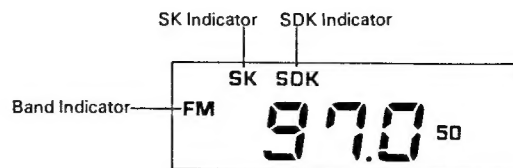

Fig. 15
1. Push Radio Power Switch ②. Press Band Select Button ⑩ and Digital Display ⑤ will illuminate to indicate FM. (Fig. 15)
2. Press SDK Switch ⑦ and Digital Display will illuminate. Press Tuning Button ① to receive traffic information broadcasts for the area through which you are driving. The SK indicator will illuminate when a signal is received.
3. The volume will become louder when a traffic information announcement is received during a broadcast. Volume cannot be lowered by turning the Volume Control ② to the left.
4. As the traffic information broadcast signal weakens, and you reach an area where the signal cannot be picked up at all, the SK Indicator will go out, indicating that traffic information can no longer be monitored. If this situation persists for more than 30 seconds, an alarm will beep to alert the driver. In such a case, either receive another traffic information broadcast station, turn the SDK Switch ⑦ off, or switch to the MW or LW band by pushing the Band Select Button ⑩.